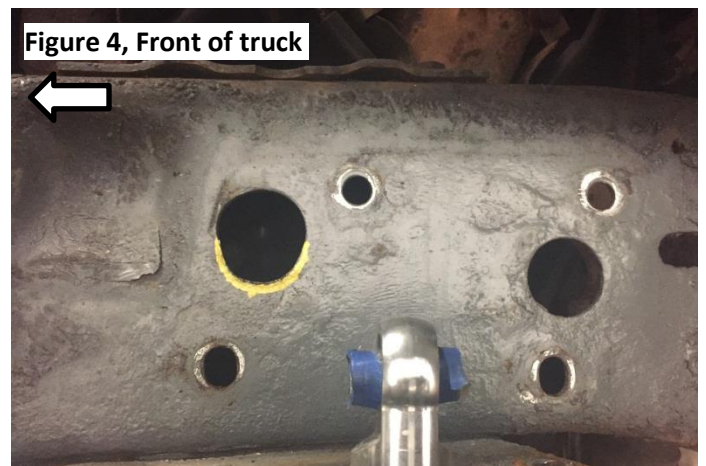

Figure 4, Front of truck
1. The 1 1/4" hole towards the front of the truck will need to be elongated downwards about 1/8" for bolt head clearance on the QA1 coil-over mount. See **Figure 4**.